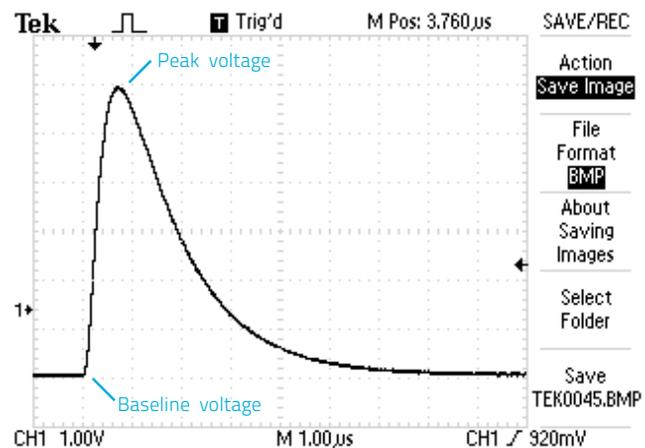

Fig. 1. Typical voltage output from a pyroelectric detector
- When you expose the detector to the pulsed laser, you will get an integrated voltage output that will rise from the baseline to a peak in about 500 μsec or less, you need to measure the voltage from the baseline to the peak (see the diagram in Fig. 1)